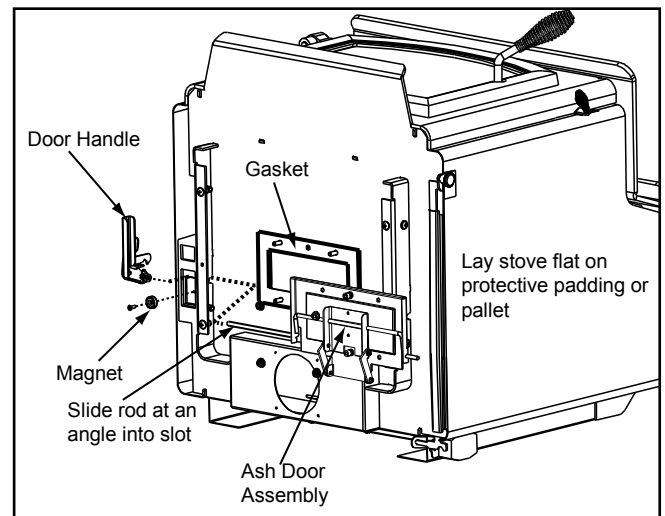

Figure 21.2
It is important the gasket is not put on upside down as it could compromise its sealing capabilities. Figure 21.2.
Slide the ash door over the 4 screws protruding from the bottom of the stove. Secure with nuts provided. **Figure 21.2.**
6. Install magnet using a Phillips head screwdriver. This magnet will hold the door handle in an open position which in turn holds the ash door open so ashes can be brushed into the ash drawer. **Figure 21.2.**